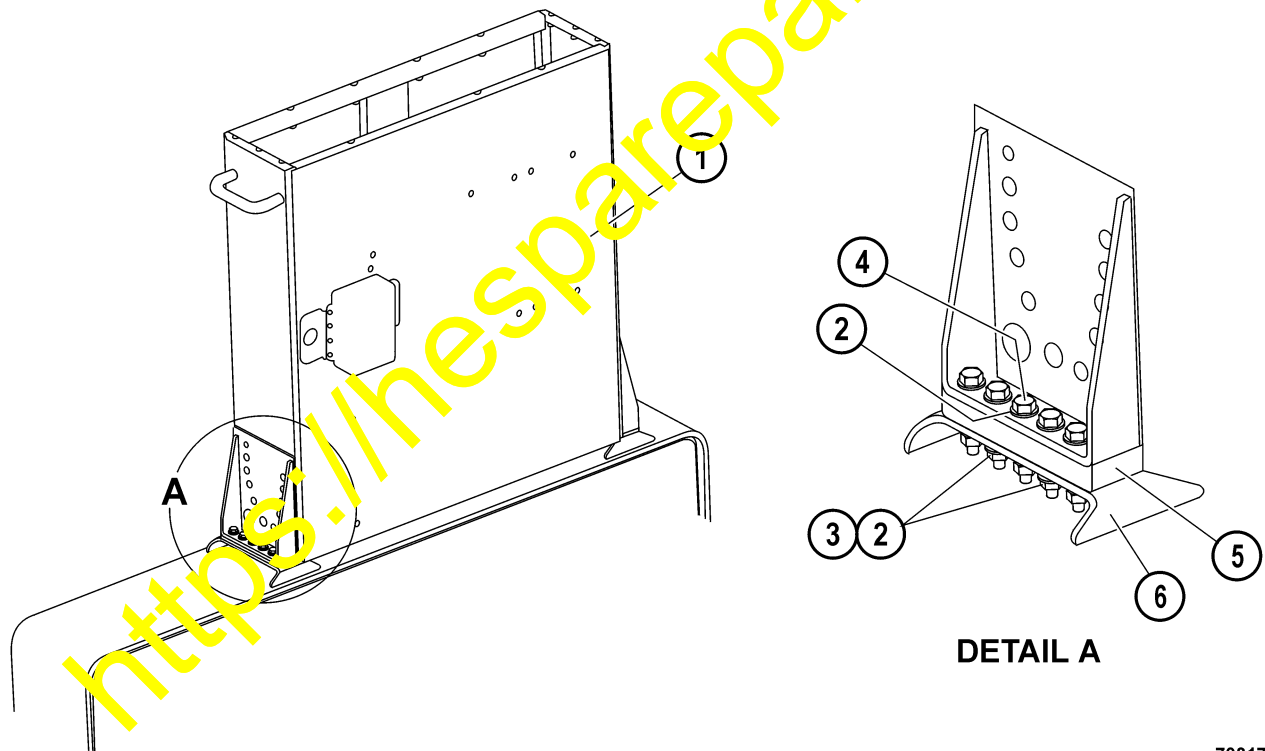

Figure 1. Brake Cabinet Mounting Improvements
There are now (5) mounting bolts instead of (3) for the brake cabinet that are longer in length to prevent loosening. The existing bolts are replaced with the longer bolts because of a new block spacer (5, Figure 1) that is added between the frame mounting plates and the brake cabinet. Additional bolts of the same length and size are added for the new holes in the frame mounting plates.